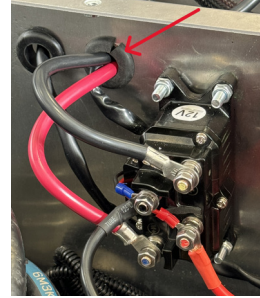

Figure 9. Hole with grommet and wires
Step 8. Drill a 7/8" (.875") hole through the divider near the winch solenoid. Be careful, the hole will have **SHARP EDGES**. Next place a grommet in hole. See figure 9.